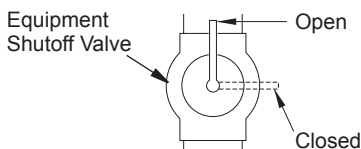

Figure 14 - Equipment Shutoff Valve
1. Close equipment shutoff valve (see Figure 14).
1. Open equipment shutoff valve (see Figure 14).
- Close equipment shutoff valve (see Figure 14, page 15).